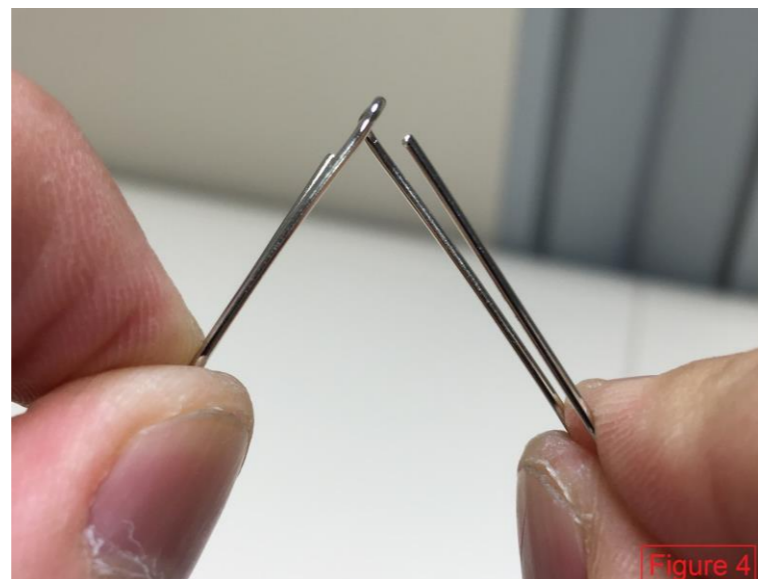

Figure 4
- 4) Hold both tips of the clip, at A and B with your index and thumb fingers as shown in Figure 4 below. Start closing the clip until A and B are aligned and touching.